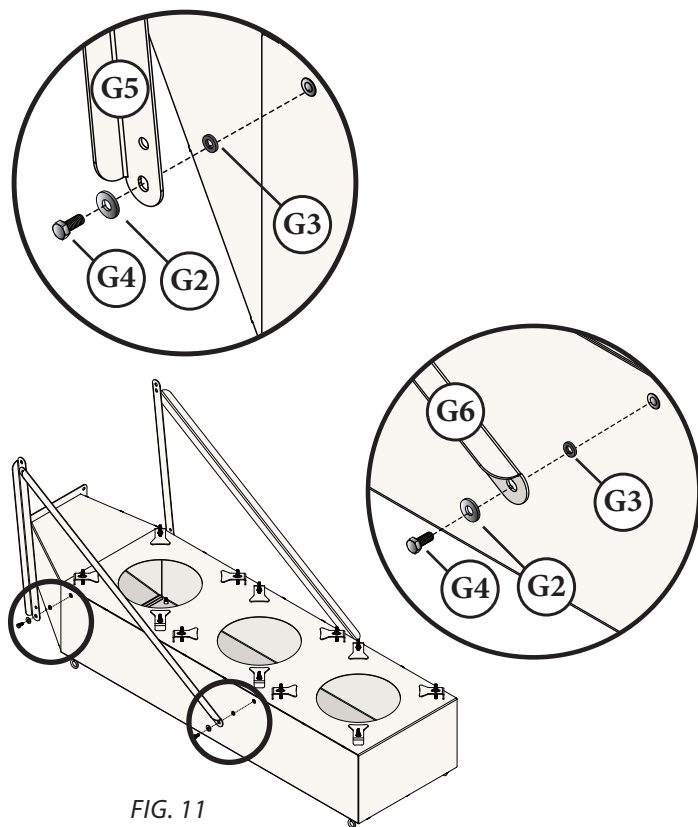

FIG. 11
- 11** Attach the two Short and Long Plenum Support Braces (G5, G6) to the Plenum Assembly (F) as shown in [FIG. 11] using a Flange Bolt (G4), Flat Washer (G2), and Rubber Washer (G3). Ensure that the Rubber Washers are placed between the Brace and the Plenum Assembly.